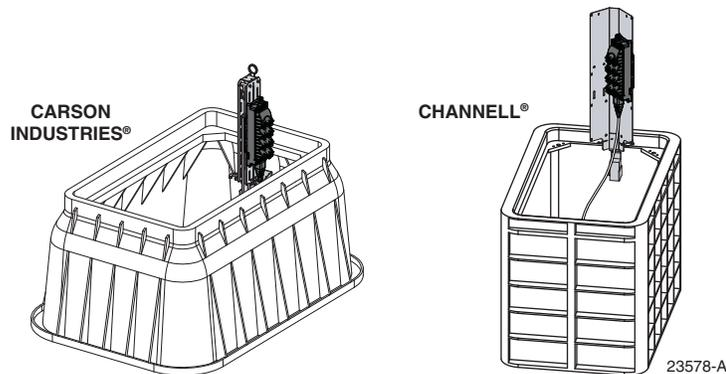

Figure 6. Typical Hand-Hole Mounting
- **Hand-Hole Mounting** (below ground) – A hand-hole enclosure (examples shown in Figure 6) is an OSP below-ground mounting system that may be used for any MST or other similar products. When installed, the top of the hand-hole enclosure is flush with the top of the ground. Hand-hole enclosures consist of a base unit and a top cover. The base unit mounts in the ground. Cables and conduit enter the base unit from the bottom.